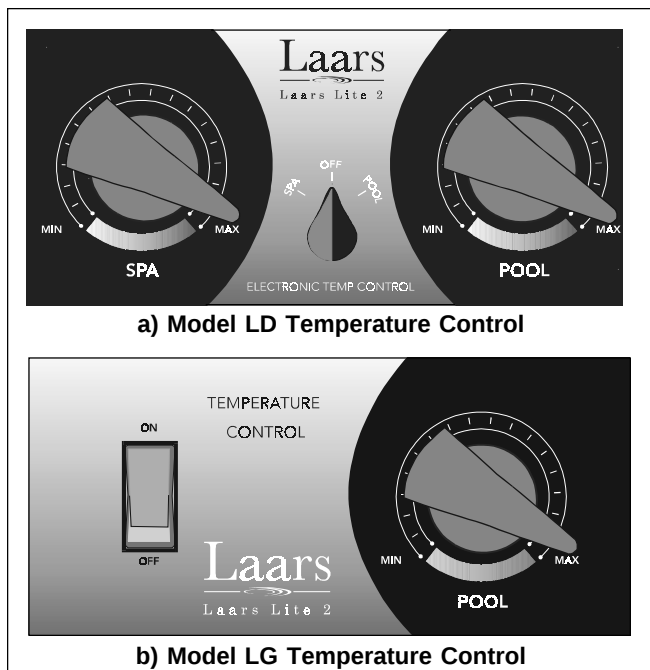

Figure 18. Temperature controls.
- Set the control panel rotary switch (LD) or the control panel rocker switch (LG) to the OFF position (see Figure 18).
- Set the rotary switch (LD) or rocker switch (LG) on the temperature control panel (see Figure 18) to OFF.
The temperature control (see Figure 18) is calibrated at the factory and covers a range from approximately 70°F to 104°F (21°C to 40°C). Use an accurate pool thermometer to determine the best water temperature for your uses.
The Laars Lite 2 model LD has dual temperature controls, which allows two different temperature settings, selected by the rotary switch in the middle of the panel. One control can be set for normal use and the other for standby; or one can be set for pool and the other for a spa. Placing the rotary switch in the middle turns off the heater (see Figure 18). The model LG has only a single control and is set similarly to the LD above.